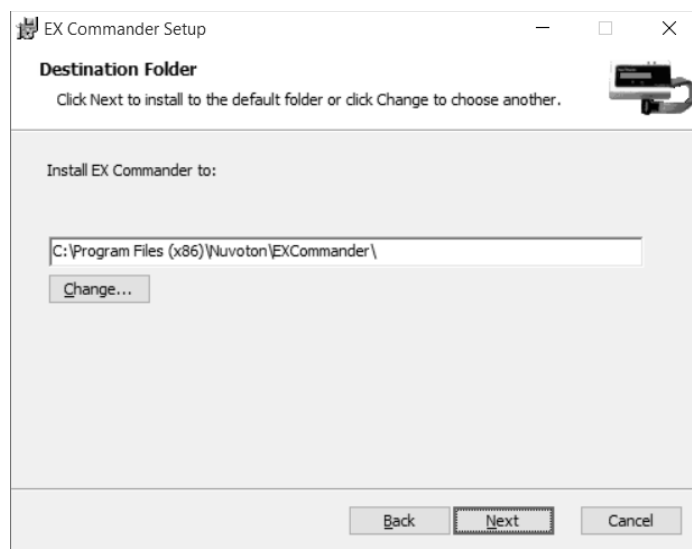

Figure 1.1.11 Choose Destination Folder
4. The dialog shown in Figure 1.1.11 appears. Confirm the destination folder where EX Commander will be installed, then click <Next>. If you want to install in a different folder, click <Change...> to specify the folder.